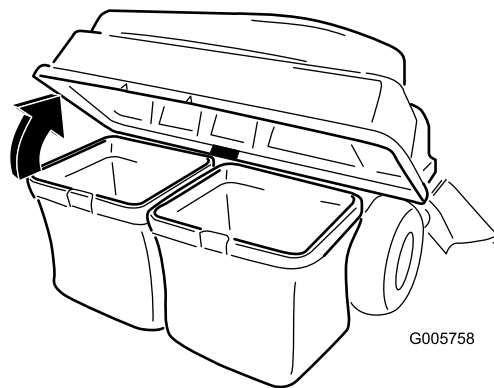

Figure 24
- Open (raise) the bagger top (Figure 24).